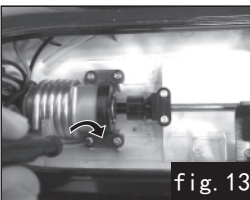

fig. 13
- 13.Put the motor seat back in position, check if propeller runs smooth, then secure it with screws, fig. 13.